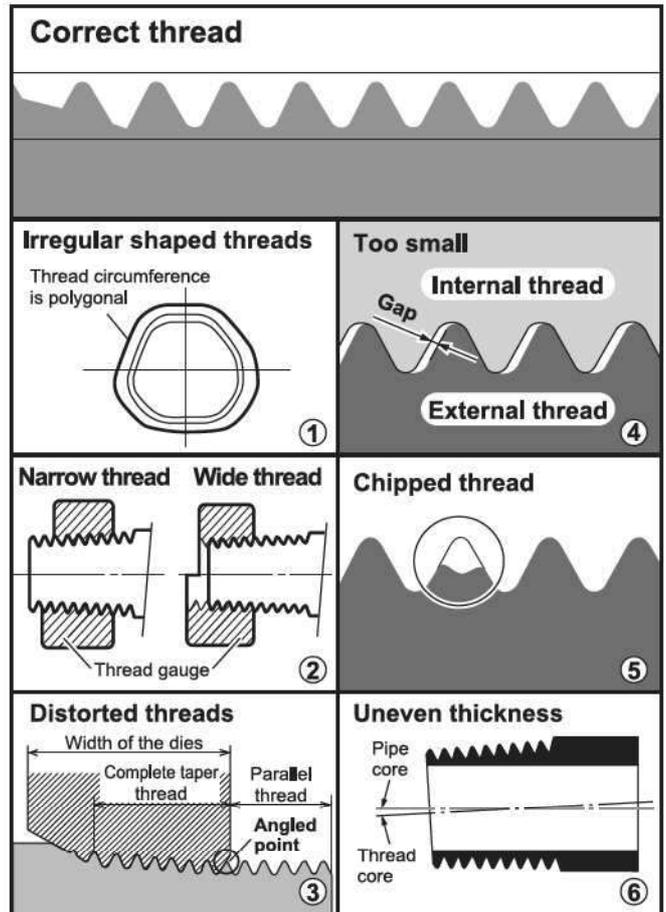

Fig. 37
Unacceptable threads (Fig. 37)
(1) Irregular shaped threads (Fig. 37 - 1)
- (A) Visually inspect the thread after wiping off any oil or dirt with a rag; look for any wave-like formation.
- (B) Gently check the surface of the thread with your fingers, feeling for any irregularity.
- (C) Check if bits of scrap have been produced when cutting.
(2) Check if the diameter of the thread is too small or too large (Fig. 37 - 2)
(3) Distorted threads (in the case of manual die heads) (Fig. 37 - 3)
(4) Threads are too small (Fig. 37 - 4)
(5) The thread is chipped (Fig. 37 - 5)
(6) Thread with uneven thickness (Fig. 37 - 6)